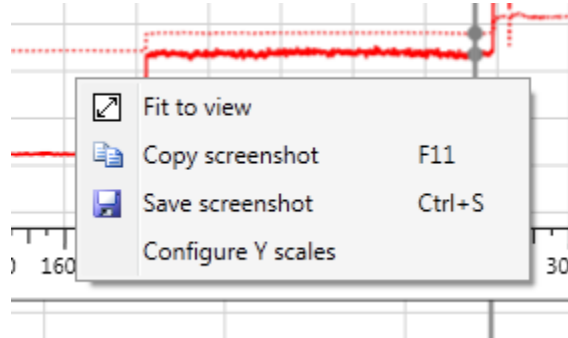

Figure 69. Left mouse button chart options
- Right click in the chart to see more chart options (Figure 69).